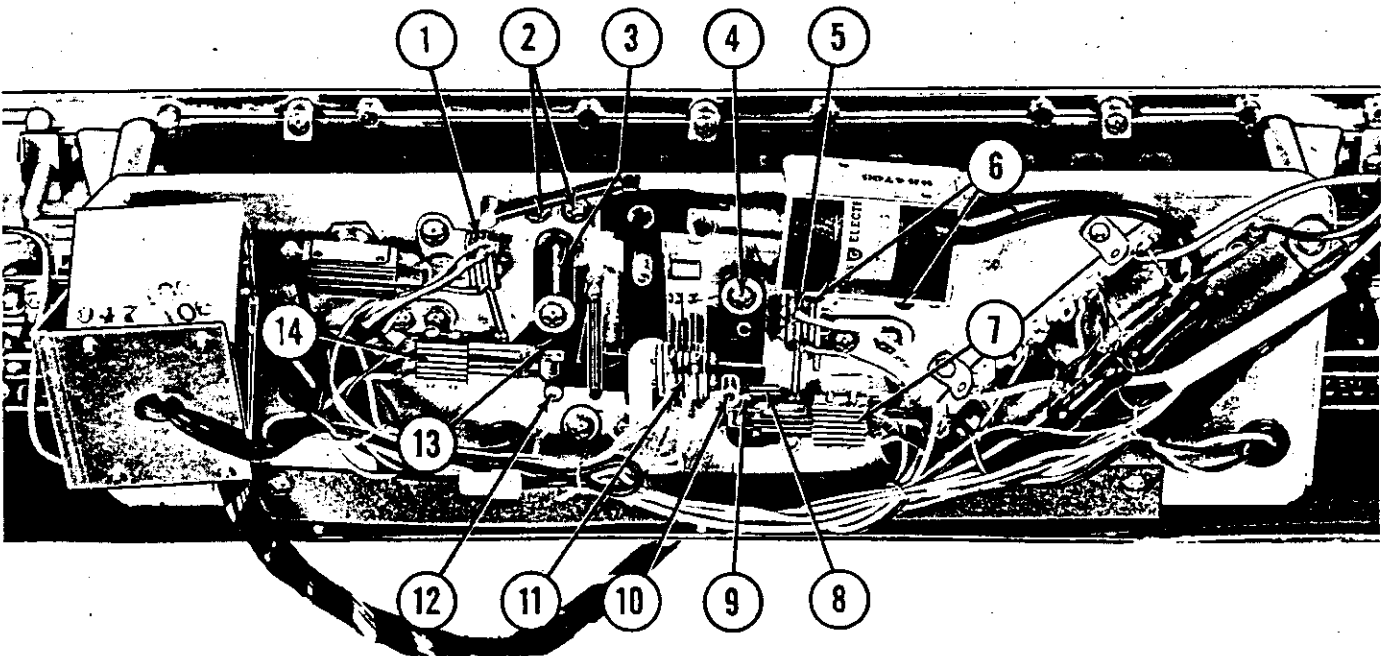

Fig. 51. SELECTOR SWITCH ADJUSTMENTS
b. With the latch solenoid resting against the stop bracket loosen the two screws (Item 2, Fig. 51) and set the bracket to provide 1/32" clearance between the letter latch pin (Item 12, Fig. 51) and the letter pawl (Item 13, Fig. 51).
c. Both the letter latch pawl and the number latch pawl (Items 3 and 4, Fig. 51) have adjusting screws. These latch pawls should be adjusted to engage fully with their respective latch pins (Item 10 and 12) when their respective selector buttons are fully depressed and their release levers are permitted to make engagement by manually actuating the latch solenoid.